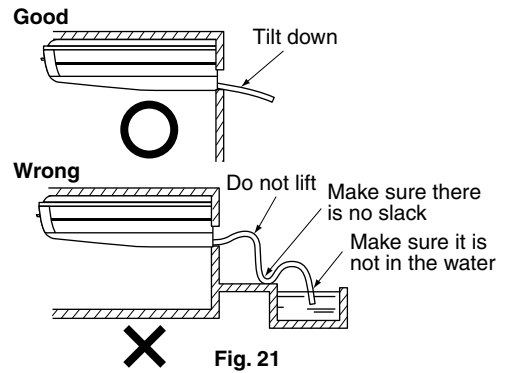

Fig. 21
(1) Carry out the drain piping.
- Make sure the piping is short, has at least a 1/100 slope, and can prevent air pockets from forming. (Refer to Fig. 21)